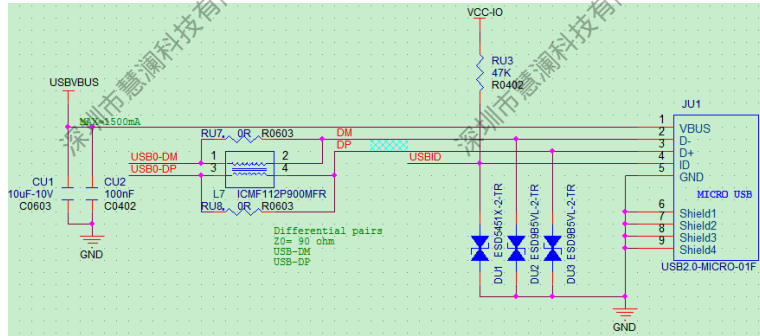

Figure 2-31 USB0 Circuit Design
- It is recommended to reserve the common mode inductor on USB D+/D-, which can layout together with 0R resistors to facilitate EMI testing and changing. As shown in Figure 2-31.